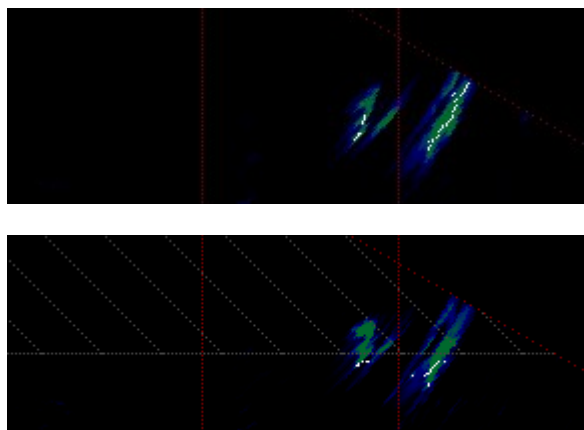

Figure 33: Example of Minimum Profile Depth Adjustment
**Figure 33** shows the effects of minimum profile depth. In the top image, the minimum profile depth is set to a point closer than the targets. Thus, profile points are generated on the targets. In the bottom image, the minimum profile depth is set to a point just at the targets. Thus, profile points are generated only on the part of the targets that are farther away than the minimum depth setting.